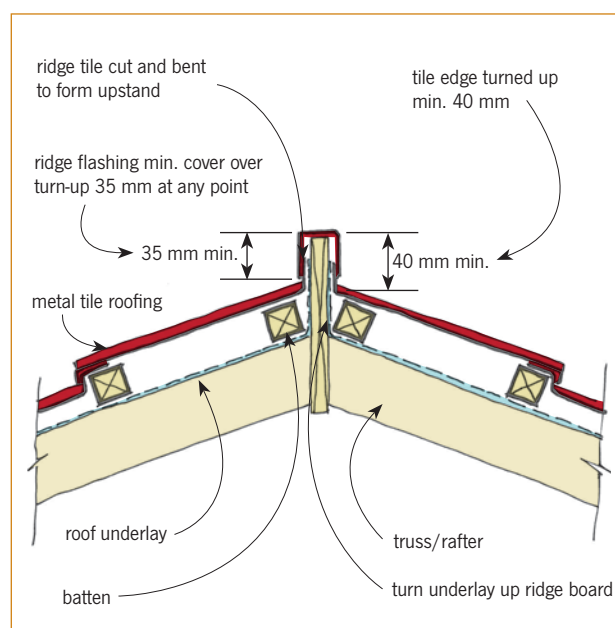
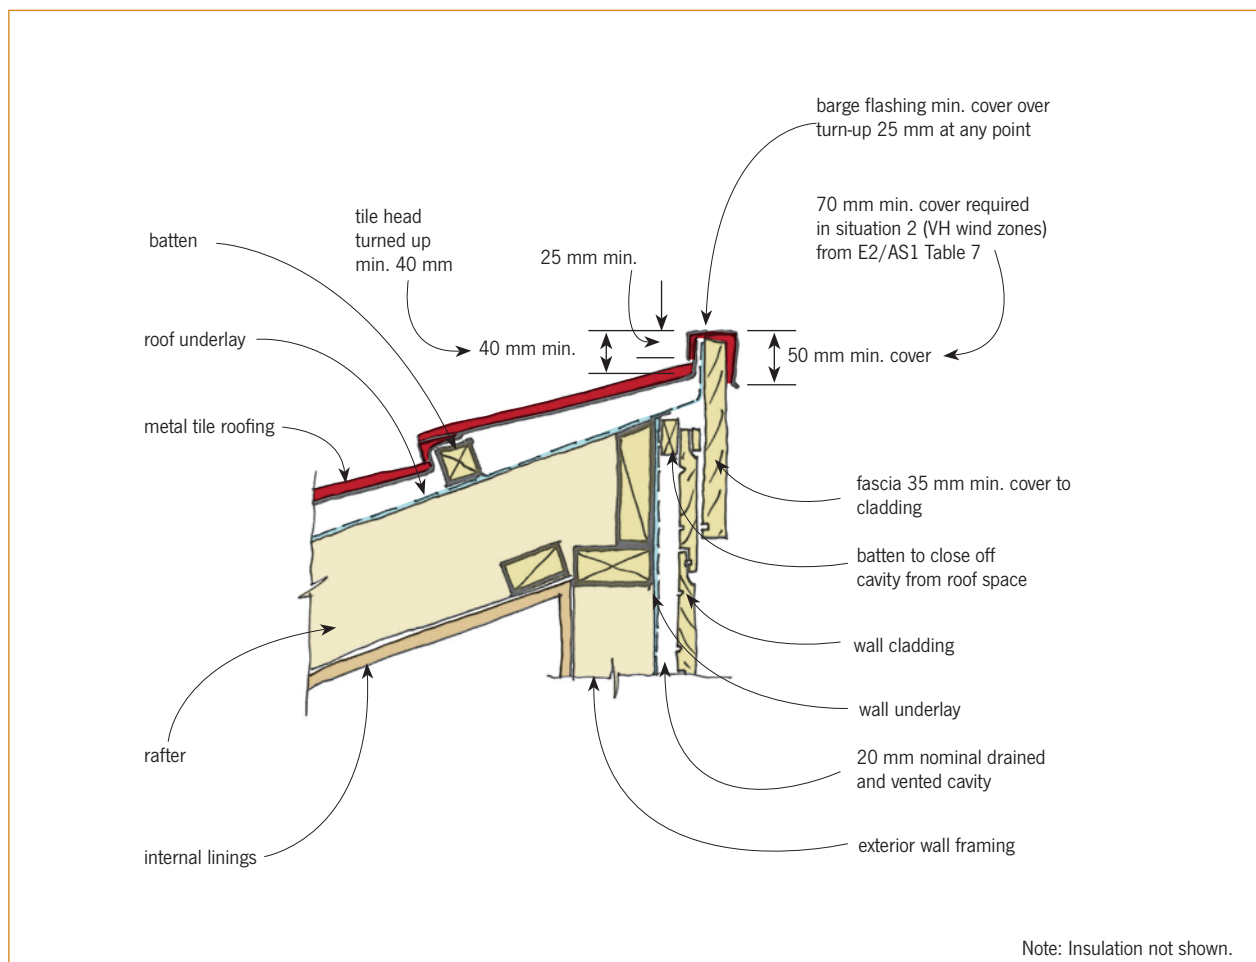

Figure 3. Ridge/hip flashing.
Figure 4. Apex – flush – timber fascia.
- (Figure 3). A similar detail is used at the verge or barge (Figures 4 and 5).